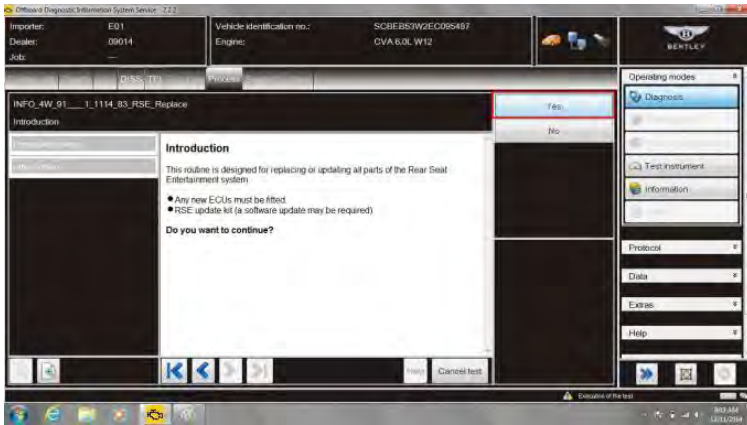

Figure 13
21. Select Yes at **Introduction** screen (see Figure 13)